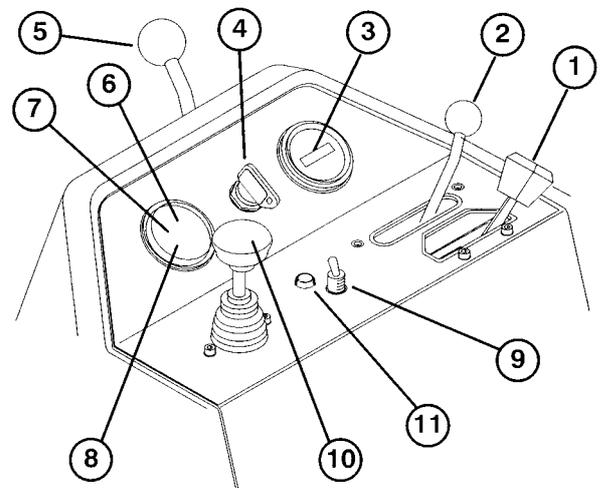

Figure 9
Choke Control (Fig. 9)—When starting a cold engine,
Functional Control Lever (Fig. 9)—Provides two (2) traction selections, plus a “NEUTRAL” position. It is permissible to shift from mow to transport or from transport to mow (not to neutral) while the Greensmaster 3200 is in motion. No damage will result.
Hour Meter (Fig. 9)—Indicates the total hours of machine operation. The hour meter starts to function whenever the key switch is turned to “ON”.
Ignition Switch (Fig. 9)—Insert the key into the switch, turn it clockwise as far as possible to the “START” position to start the engine. Release the key as soon as the engine starts; the key will move to the “ON” position. Turn the key counter-clockwise to “OFF” position to stop the engine.
Steering Arm Locking Lever (Fig. 9)—Rotate the lever rearward to loosen adjustment, raise or lower the steering arm for operator comfort, then, rotate the lever
Water Temperature Light (Fig. 9)—This light glows and the engine automatically shuts-down when the engine coolant temperature gets too high..
Two-Speed Transport Switch (Fig. 9)—When the switch is moved to the forward position, the engine will run at maximum engine speed (2800 rpm). When moved to the rear position, the engine will run at a slower engine speed (2300 rpm) for quieter operation.
Battery Warning Light (Fig. 9)—Light glows if the battery charge is low.
Oil Pressure Light (Fig. 9)—Light glows if the engine oil pressure drops below a safe level.
Raise/Lower/Mow Control (Fig. 9)—Moving this control forward during operation lowers the cutting units and starts the reels. Pull back on the control to stop the reels and raise the cutting units. During operation, the reels can be stopped by pulling back on the control momentarily, then releasing it. Restart the reels by moving the control forward.